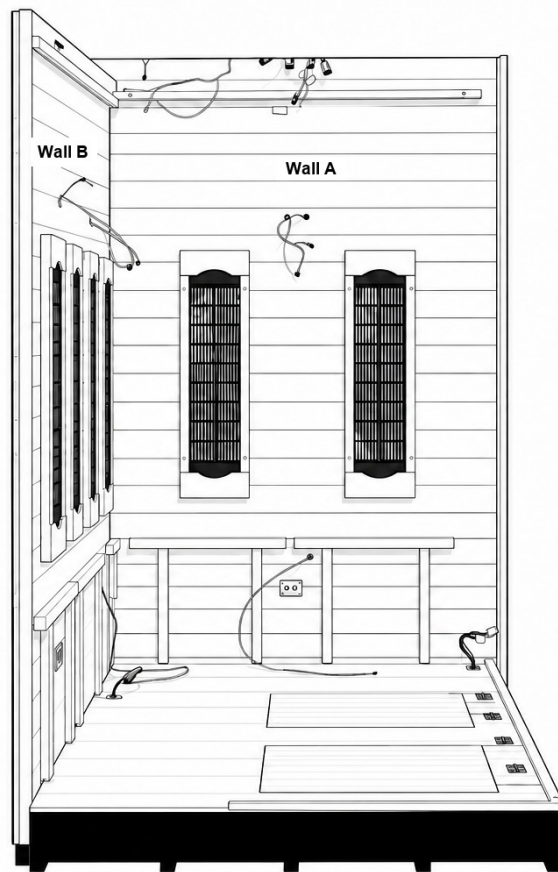

Figure 7. Back Wall (B) joining the caulked corner at the standing Side Wall (A).
STEP 5 • Install the Back Wall (B)
- With two people lifting, bring the Back Wall (B) into position flush against the caulked edge of Wall A and against the Floor Panel edge on side B (Figure 7).